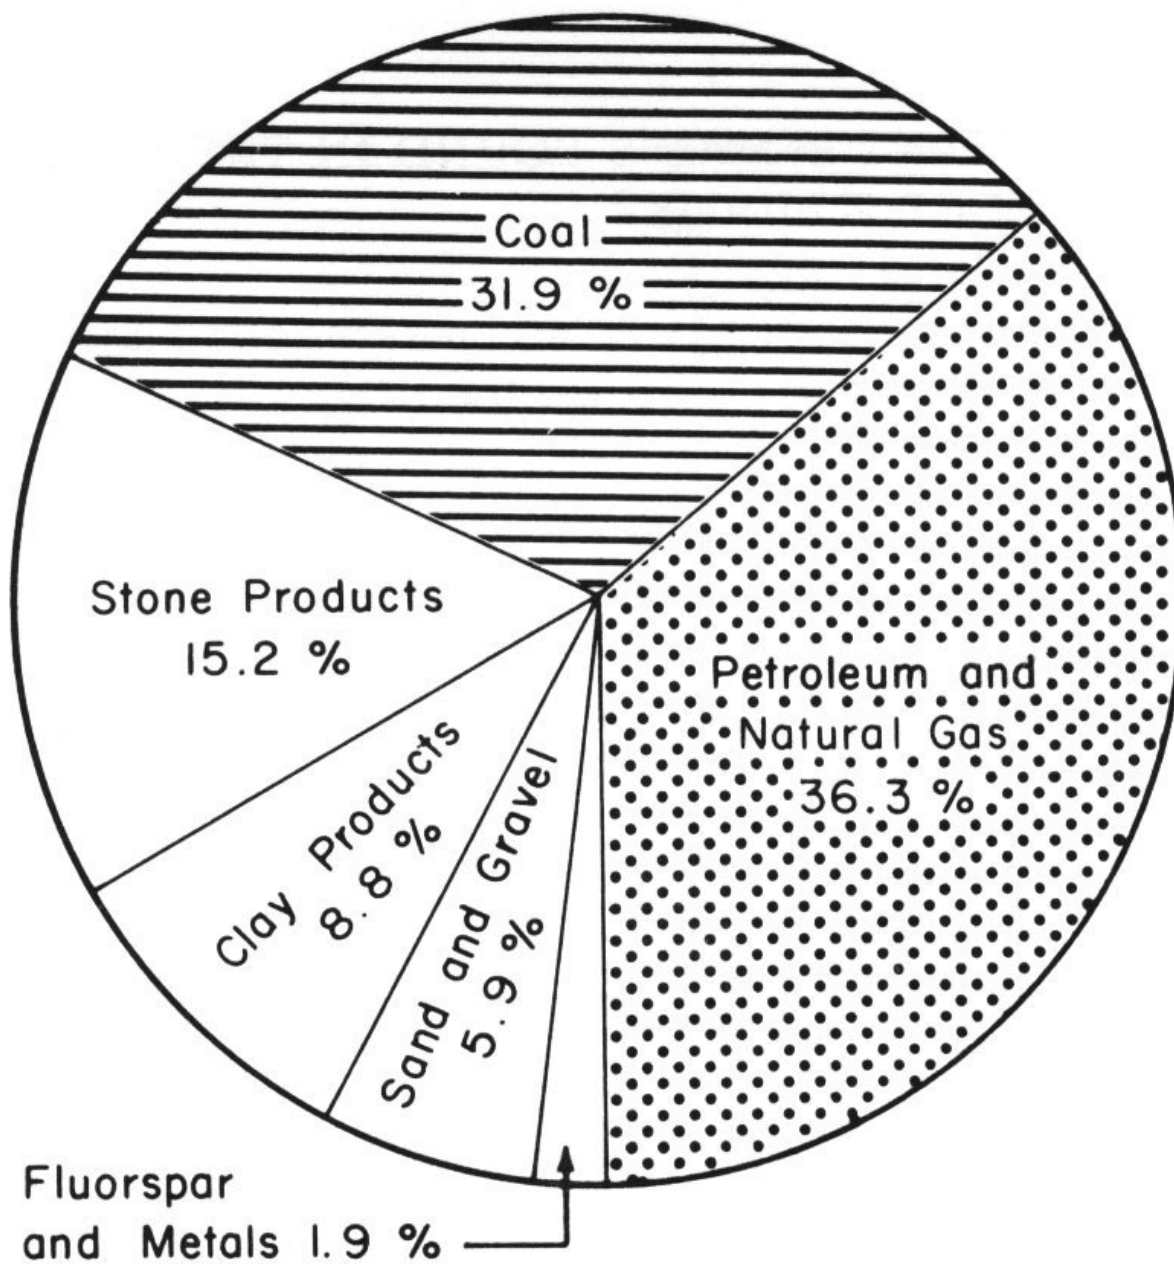

Figure 6—Percentage diagram of Illinois mineral production value for 1963.
A great variety of mineral commodities are produced in Illinois. In the order of their 1963 value (fig. 6) they are (1) crude oil and natural gas, (2) coal, (3) clay products, (4) crushed stone and cement, (5) common sand and gravel, (6) special sands, (7) fluorspar, and (8) metals—zinc and lead.